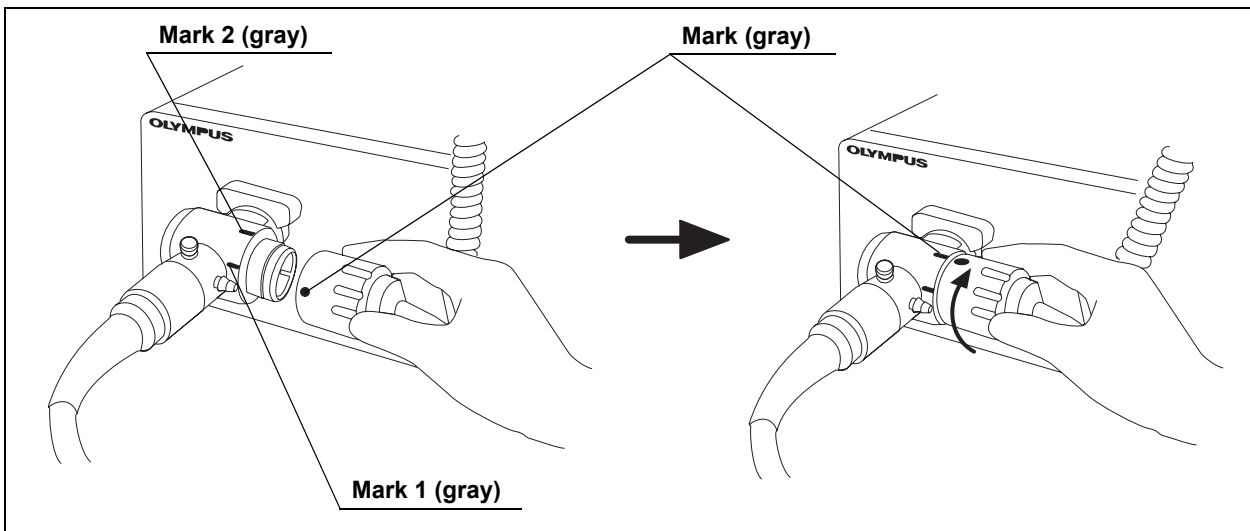

Figure 3.20
5. Align the mark on the videoscope cable LUCERA or the videoscope cable 200 with mark 1 on the endoscope connector and push it in until it stops (see Figure 3.20).
6. Turn the connector of the videoscope cable clockwise until it stops (see Figure 3.20).